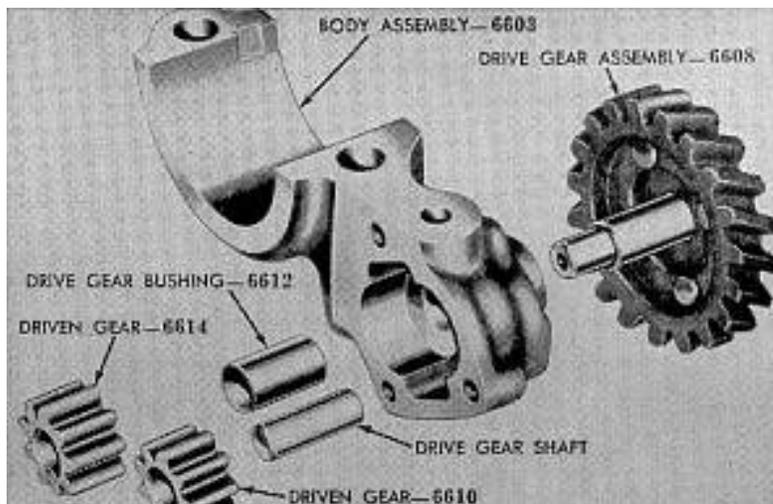
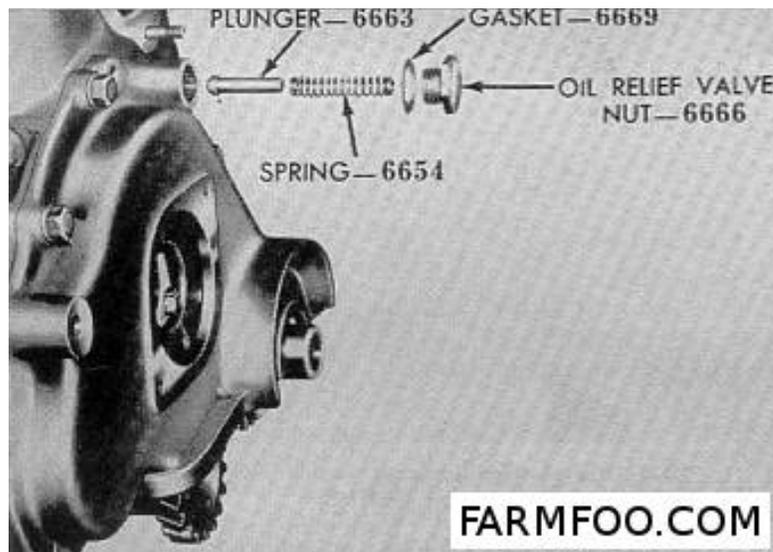

Fig. F025 - Disassembled view of engine oil pump used on models 2N-8N-9N.
Fig. F026 - Disassembled view of oil pressure relief valve mounted on front of timing gear cover on models 2N-8N-9N.
41. Oil pump body is part of front main bearing cap and can be removed after oil pan is off. Pump is gear type and is driven by crankshaft timing gear Fig. F025. Pump pressure is regulated by a spring loaded plunger type by-pass valve, located on top left side of gear cover as shown in Fig. F026.